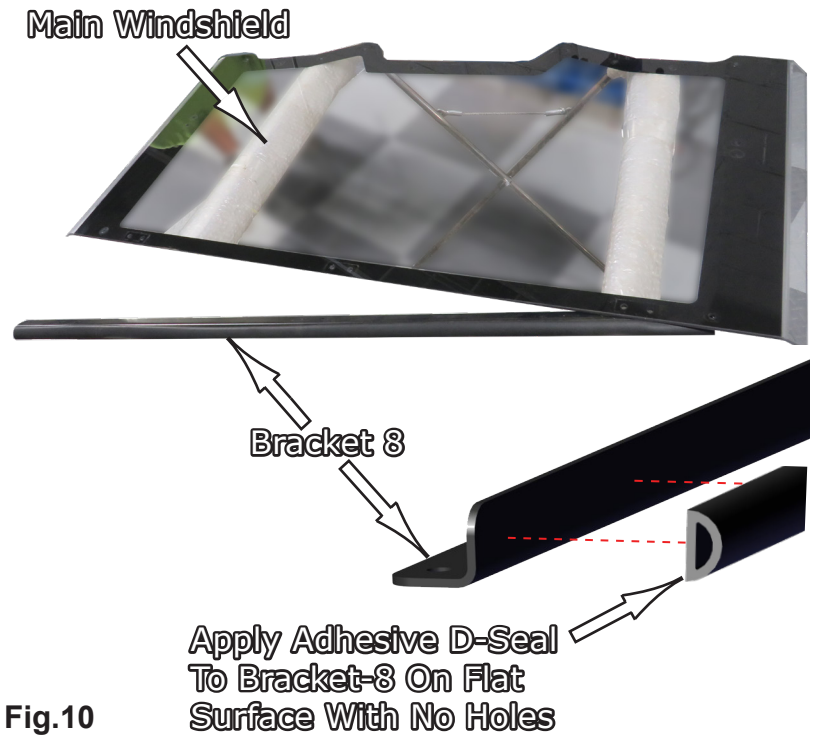

Fig.10
10. After the Upper Windshield Assembly is installed, now you can prep the Main Windshield Assembly. To do this, first find the other **Bracket-8**, and apply the **Adhesive D-Seal** onto the flat surface with no holes that will be sealing between the Upper and Lower Windshield sections. **Fig.10** shows where you apply the **D-Seal** and where **Bracket-8** will be installing on the Main Windshield.